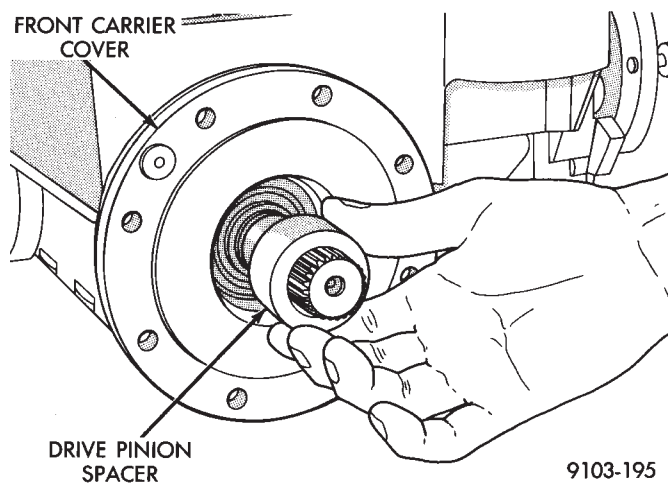

Fig. 12 Installing Drive Pinion Spacer onto Pinion
- (3) Apply a light coat of oil onto the drive pinion spacer and slide onto the pinion shaft with the tapered side facing outward (Fig. 12).